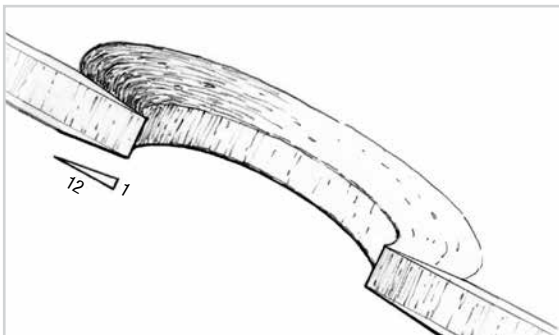

Figure 5-13 Grind a 12-to-1 bevel on the edges of the inner and outer skins.
1. Prepare the hole by cutting away ragged or damaged skin. Cut back to undamaged core and skin while maintaining a circular or oval hole shape. Grind a minimum 12-to-1 bevel on the edges of the inner and outer skins at the hole to provide adequate bonding surface when re-laminating the skin repair patches. For example, if the skin is $\frac{1}{4}$ " (6 mm)-thick, the bevel will extend 3" (76 mm) from the edge of the hole (Figure 5-13).